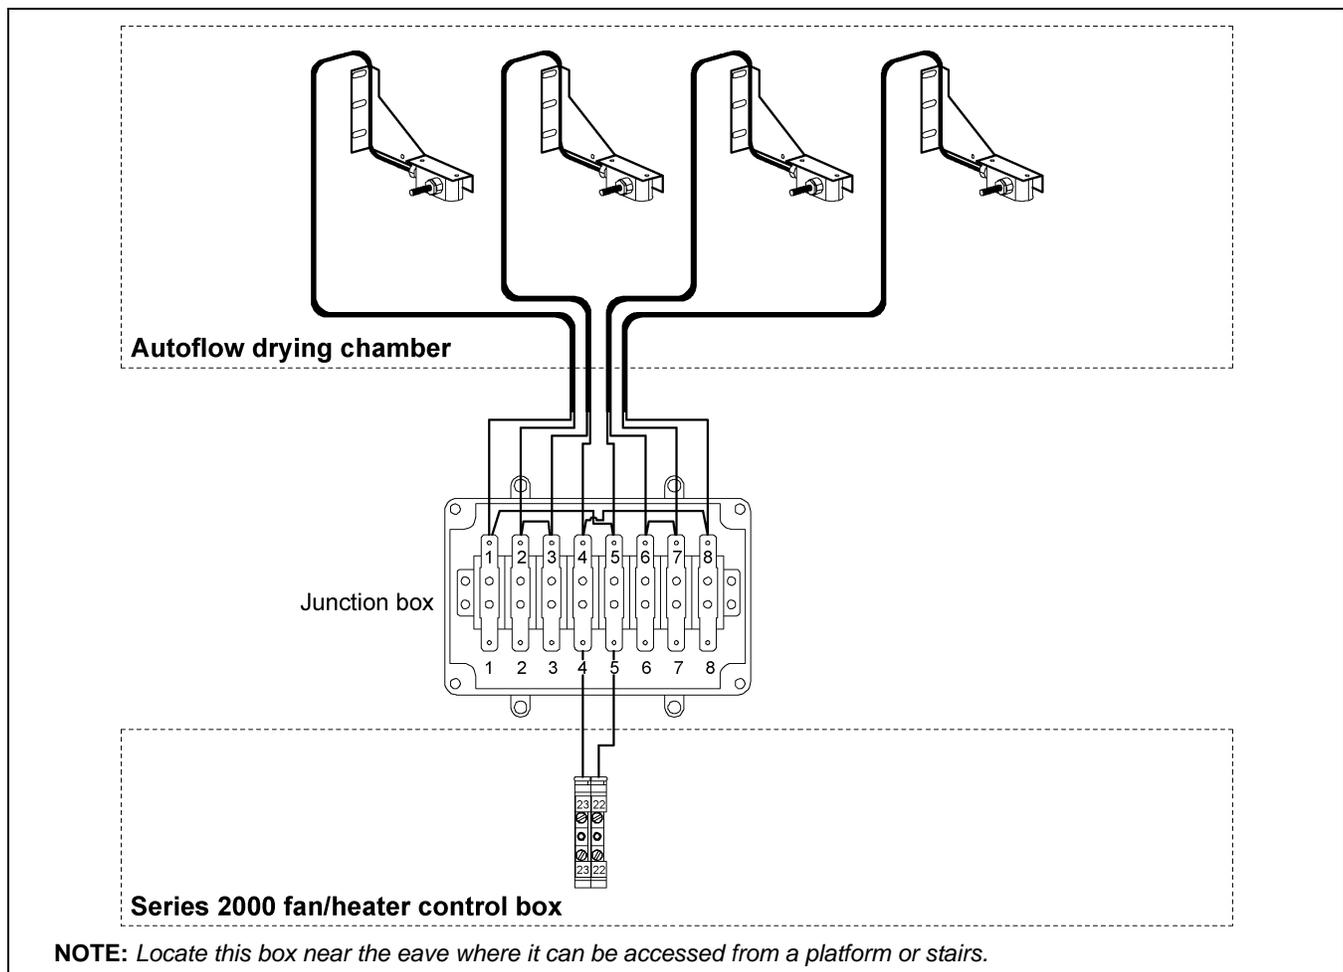

Figure 3I Illustration of the grain temperature sensor interconnection.
7. Wire the four (4) temperature sensors as shown in Figure 3I and on Page 18.